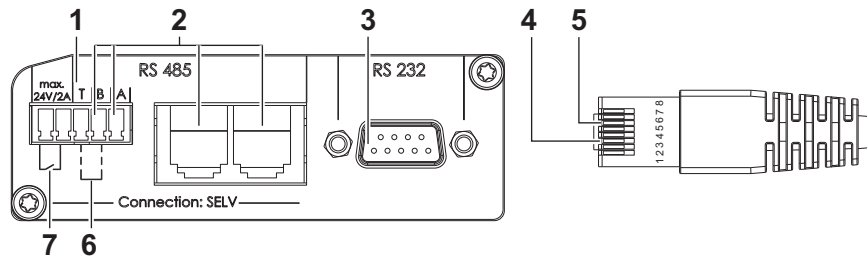

Fig. 7 Layout of network terminals
- Connect the inverters to each other at serial interface EIA485, using a cable with RJ45 plug connectors or a cable on the terminal connector (see Fig. 7).